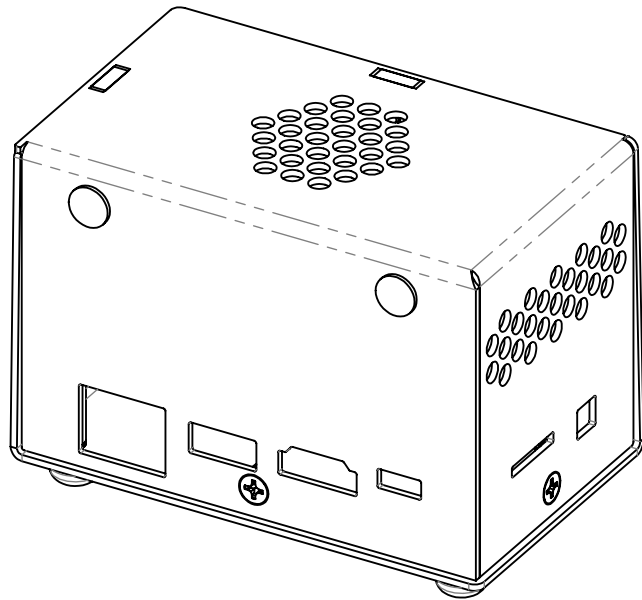

FIGURE 1
1. REMOVE CONTENTS FROM OUTER SHIPPING PACKAGING (FIGURE 1).